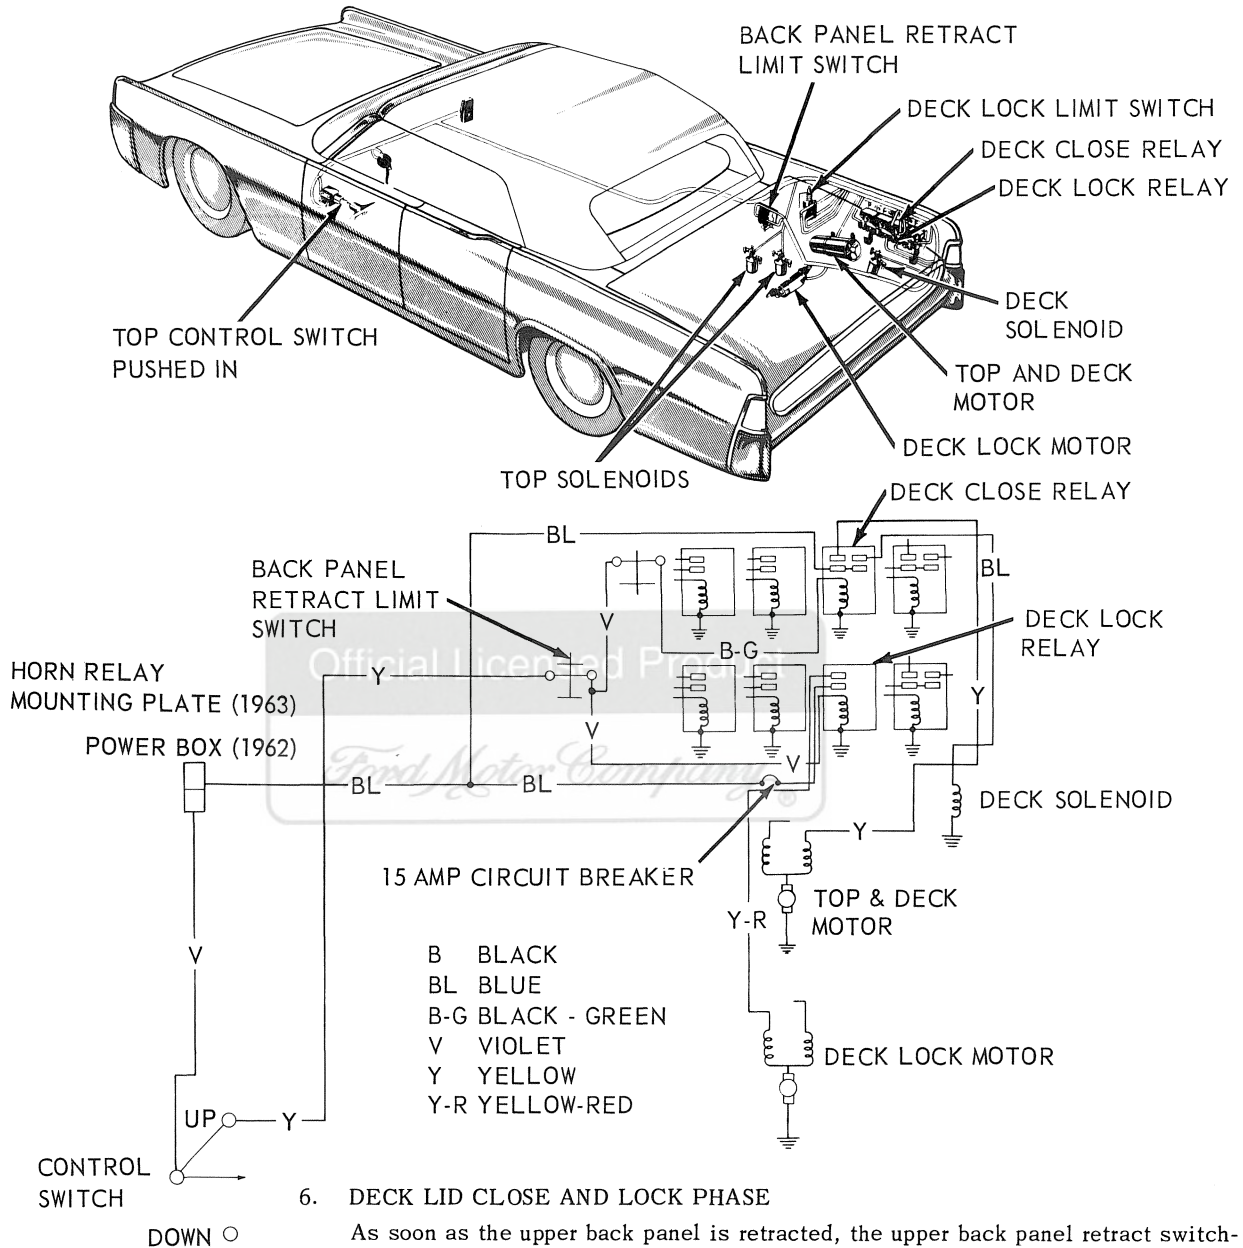

FIG. 2-16—Deck Lid Close and Lock Phase (Top Erect Cycle)
6. Deck lid close and lock—Figure 2-16.